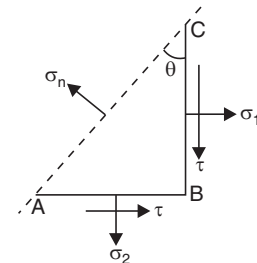

FIGURE 10.5
31. Two direct stresses σ_1 and σ_2 are acting on a body in two mutually perpendicular planes accompanied by shear stress τ as shown in Fig. 10.5. The maximum principal stresses are given by